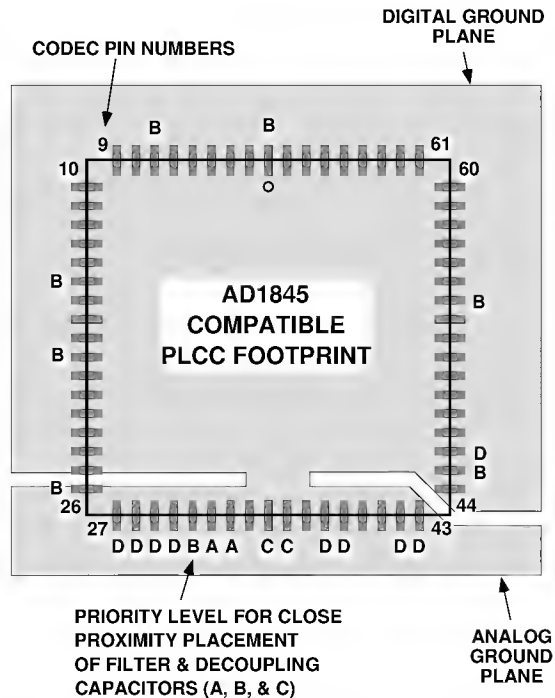

Figure 8. AD1845 Compatible Codec Recommended Ground Plane and Capacitor Placement
The AD1845 is available in PLCC or TQFP packages. The small physical dimensions of these packages can make it challenging to place all the required capacitors close to the part. Because some pins have a much greater effect on performance than others, use the information in Table IV to prioritize component placement. Pins with an “A” priority in Table IV should be connected to their associated capacitors with the shortest traces possible. Figure 8 also shows the distribution of codec bypass and filter capacitor locations and placement priorities.
Figure 8 shows an example ground plane layout for an AD1845 PLCC package. This layout separates the analog and digital ground planes with a 2 to 3 mm gap and connects them at one point beneath the codec with a single 3 to 4 mm wide link. The ground planes reduce board noise by “shielding” analog lines from digital interference. The link between the planes, as close to the codec as possible, prevents any potential difference due to ESD or fault currents. Without the link, these currents could flow through the codec’s substrate degrading performance. You should try to avoid running any digital or analog signal traces across the gap between the digital and analog planes.
- Locate filter and decoupling capacitors as close as possible to their corresponding codec pins (Table IV and Figure 8 describe the specifics and priorities this process entails for an AD1845/CS4231 “socket”). Close placement of capacitors to the chip pins helps to avoid noise related to long-trace inductance effects.
- Use a split (separate analog and digital) ground plane and matching non-overlapping +5 V supply planes. The power and ground planes should be separated by approximately 1 mm (i.e., four layer PCB). A single 3 to 4 mm wide link under the codec connects the ground planes (see Figure 8). Matching ground and power planes provide a highly effective low ESR and low ESL bypass capacitor for the system.